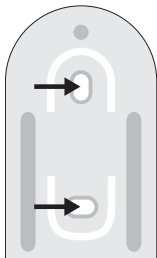

Figure 4
- Place the wall holder vertically against the wall with the round side pointing up, see figure 4.
- Mark the positions of the bores through the two slotted holes, see arrows in figure 4.